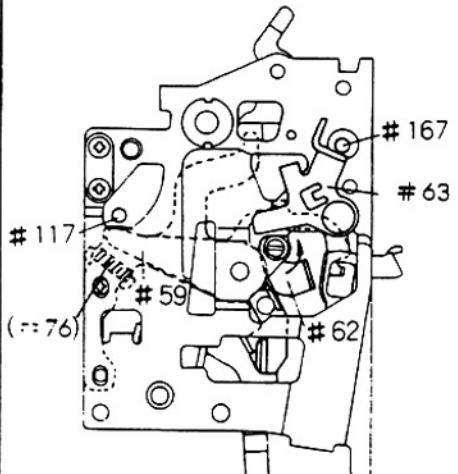

fig. 2-4
- 1) Position Pin #117 above Main lever #59. (fig. 2-4)
- 2) Engage Pin #167 with Actuating lever #63. (fig. 2-4)